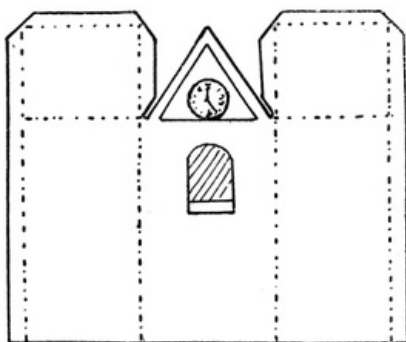

FIG. 184
**A Shop.** This can be made like the Noah's Ark, except that the bottom will, of course, be a rectangle, and one long side must be left open. The children can turn cardboard boxes of different kinds into shops quite easily. Perhaps one of the easiest shops to make is the butcher's. The inside can be covered with white paper, upon which the children have drawn tiles in blue or green pencil. A little paying-desk (Fig. 184) can be made of brown paper and gummed to one of the walls. Tables can be made of cardboard, or of wood if the children have begun woodwork. Joints of meat drawn on cardboard, and coloured with red pencil, look very realistic when cut out. To hang these the children can hammer nails half way into a piece of stripwood and glue it to the wall. The joints can be attached to the nails by pieces of string.